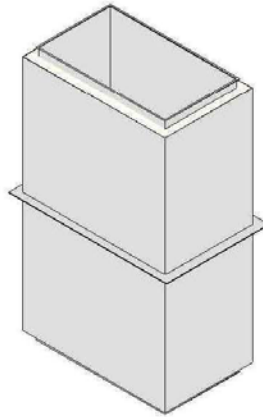

Figure 4. Flange Support Assembly (FSA)
- iii. FLANGE SUPPORT ASSEMBLY (FSA) – Secure the Pre-Fabricated Grease Duct (Item 1) sections with integral FSA (reference Figure 4) to the supporting construction (supplied by others). Ensure the FSA is supported continuously on all sides. Fasten the FSA to the supporting construction at min. on each of the four corners using appropriate type fasteners for the intended construction and as specified by the responsible design professional. Ensure that the supports are spaced such as not to exceed a max. load of 3,400 lb.